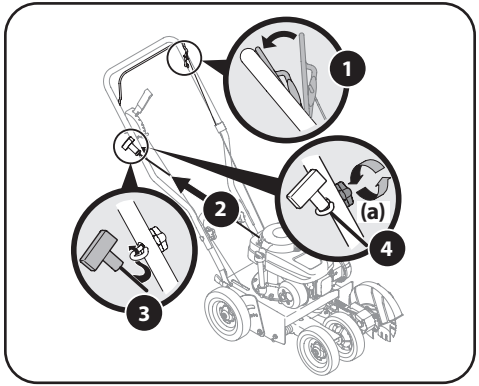

Figure 5
1. Stand behind the edger and hold the blade control against the upper handle. See Figure 5.
**NOTE:** The starter rope will not pull out of the engine unless the blade control (refer to Figure 5) is depressed against the upper handle.